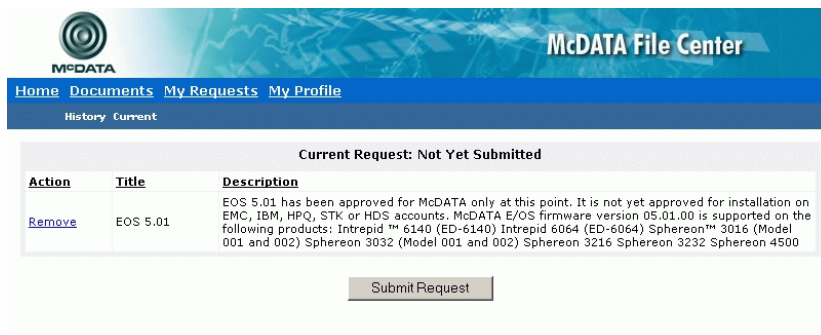

Figure 4-36 McDATA File Center (Current Request Page)
6. Authorization to download a firmware version requires approval from the McDATA Solution Center. In the *Action* column adjacent to the desired firmware version, click *Add to Request*. The *Current Request* page displays (Figure 4-36).